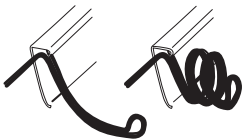

Figure 26
***NOTE:** If there is excess cable that needs to be gathered at one location (as shown in the illustration), dress the cable routed from both directions so that a single loop is left extending from the storage location. Doubling the cable up from this point, form the cable into a coil. Storing excess cable using this method can reduce electronic interference (Figure 26).*